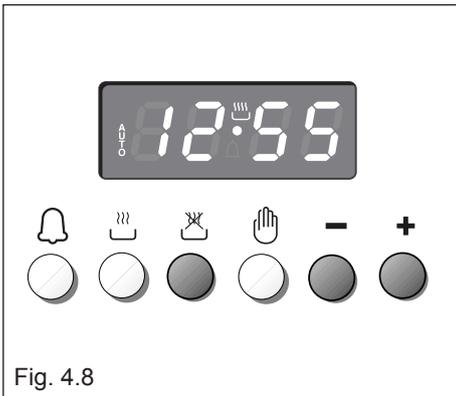

Fig. 4.8
2. Set the end of the cooking time by pushing the button and the **+** button to advance, or **-** to go backwards if you have passed the desired time (fig. 4.8).